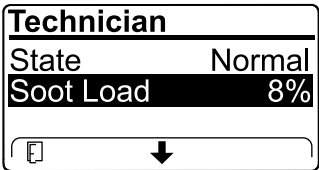

Figure 28
- View the soot load which is measured as the percentage of soot in the DPF(Figure 28); refer to the soot-load table.